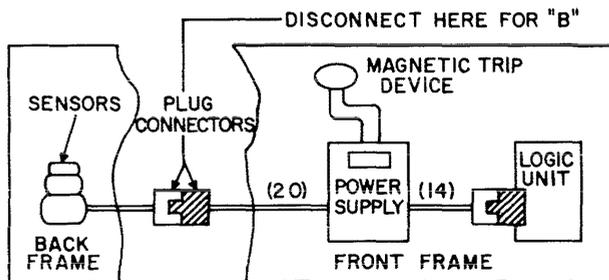

Fig. 3. Power Sensor Cabling and Disconnect Plugs
2. Separate the disconnect in the breaker located between power sensor wiring on the front frame and the wiring on the back frame. See Fig. 3.